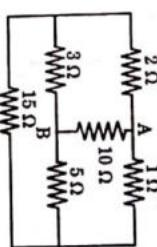

Fig. 1.15.1
- Que 1.15.** Determine the effective resistance between terminals A-B in the network of Fig. 1.15.1.